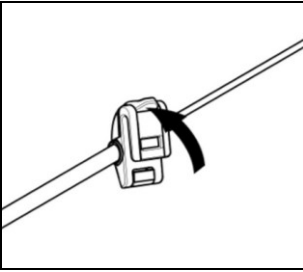

Fig. 23
- Open the clip positioned on the microphone boom, operating as indicated in Fig. 23.